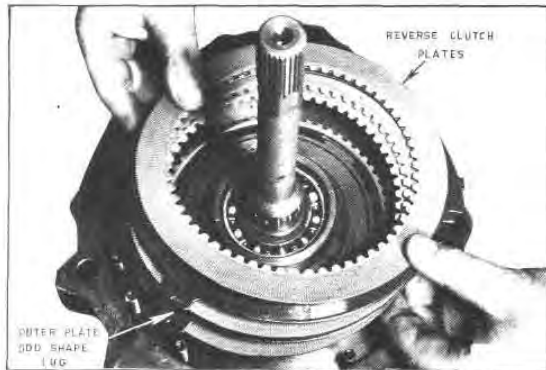

Fig. G77 — Assembling Reverse Clutch Plates
42. Assemble one of the reverse clutch plates over the exposed splined teeth on the ring gear. Assemble the outer clutch plate with the odd shaped lug positioned as shown in Figure G77 to obtain the proper spacing in relation to the pressure plate springs. Repeat this procedure to complete the assembly of the three (3) clutch plates and the two (2) outer plates in the order shown in Figure G77.